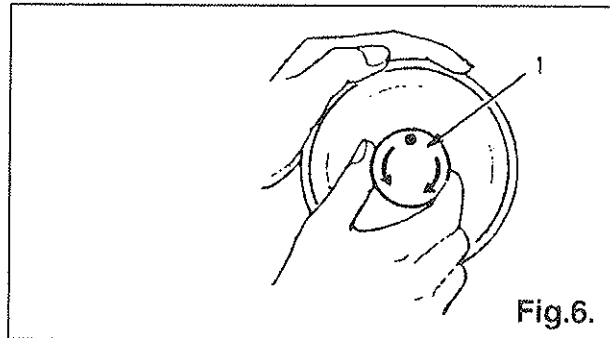

Fig.6.
1. Stop motion of needle by loosening stop-motion screw (1), Fig.6. Hold hand wheel with left hand and turn stop-motion screw toward you with right hand.